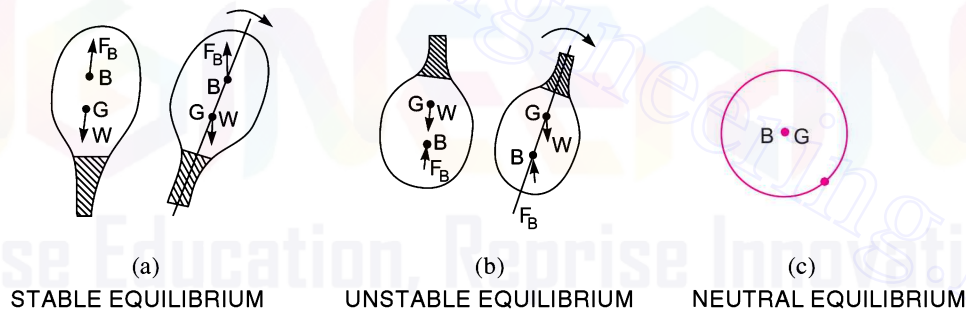

Fig. 4.12 Stabilities of sub-merged bodies.
**4.7.1 Stability of a Sub-merged Body.** The position of centre of gravity and centre of buoyancy in case of a completely sub-merged body are fixed. Consider a balloon, which is completely sub-merged in air. Let the lower portion of the balloon contains heavier material, so that its centre of gravity is lower than its centre of buoyancy as shown in Fig. 4.12 (a). Let the weight of the balloon is  $W$ . The weight  $W$  is acting through  $G$ , vertically in the downward direction, while the buoyant force  $F_B$  is acting vertically up, through  $B$ . For the equilibrium of the balloon  $W = F_B$ . If the balloon is given an angular displacement in the clockwise direction as shown in Fig. 4.12 (a), then  $W$  and  $F_B$  constitute a couple acting in the anti-clockwise direction and brings the balloon in the original position. Thus the balloon in the position, shown by Fig. 4.12 (a) is in stable equilibrium.
(b) **Unstable Equilibrium.** If  $W = F_B$ , but the centre of buoyancy ( $B$ ) is below centre of gravity ( $G$ ), the body is in unstable equilibrium as shown in Fig. 4.12 (b). A slight displacement to the body, in the clockwise direction, gives the couple due to  $W$  and  $F_B$  also in the clockwise direction. Thus the body does not return to its original position and hence the body is in unstable equilibrium.
(c) **Neutral Equilibrium.** If  $F_B = W$  and  $B$  and  $G$  are at the same point, as shown in Fig. 4.12 (c), the body is said to be in neutral equilibrium.